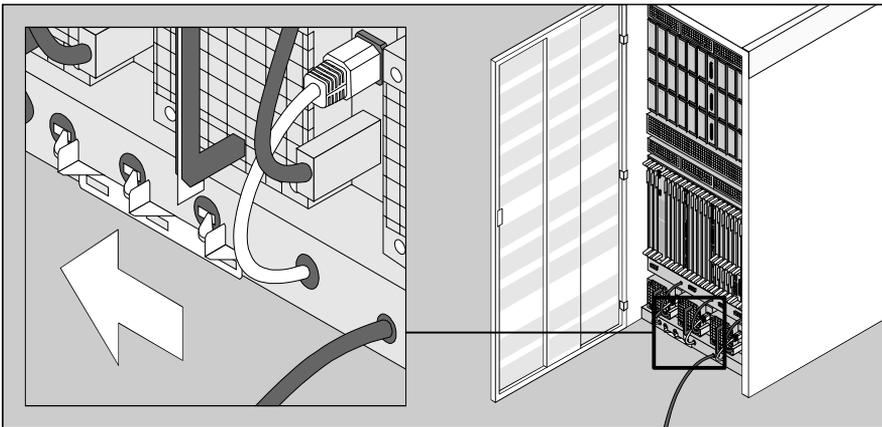
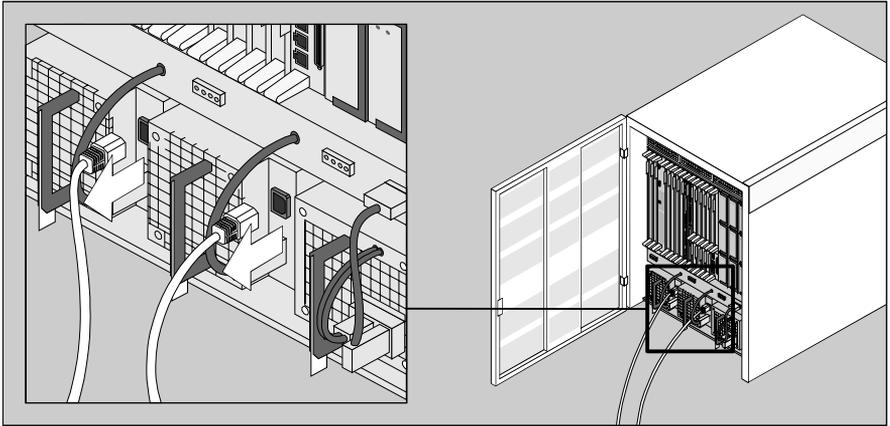

Figure 1: Disconnecting a system from the mains (small cabinets, with two power supply units)
Figure 2: Disconnecting a system from the mains (large cabinets)
- Switching off the system cabinet does not disconnect the cabinet, or the other RM600 E units, from the power supply. Each device can only be disconnected from the power supply by removing the power plug (see figure 1 on page 10, small cabinets) or by switching the mains isolator (see figure 2 on page 11, large cabinets).